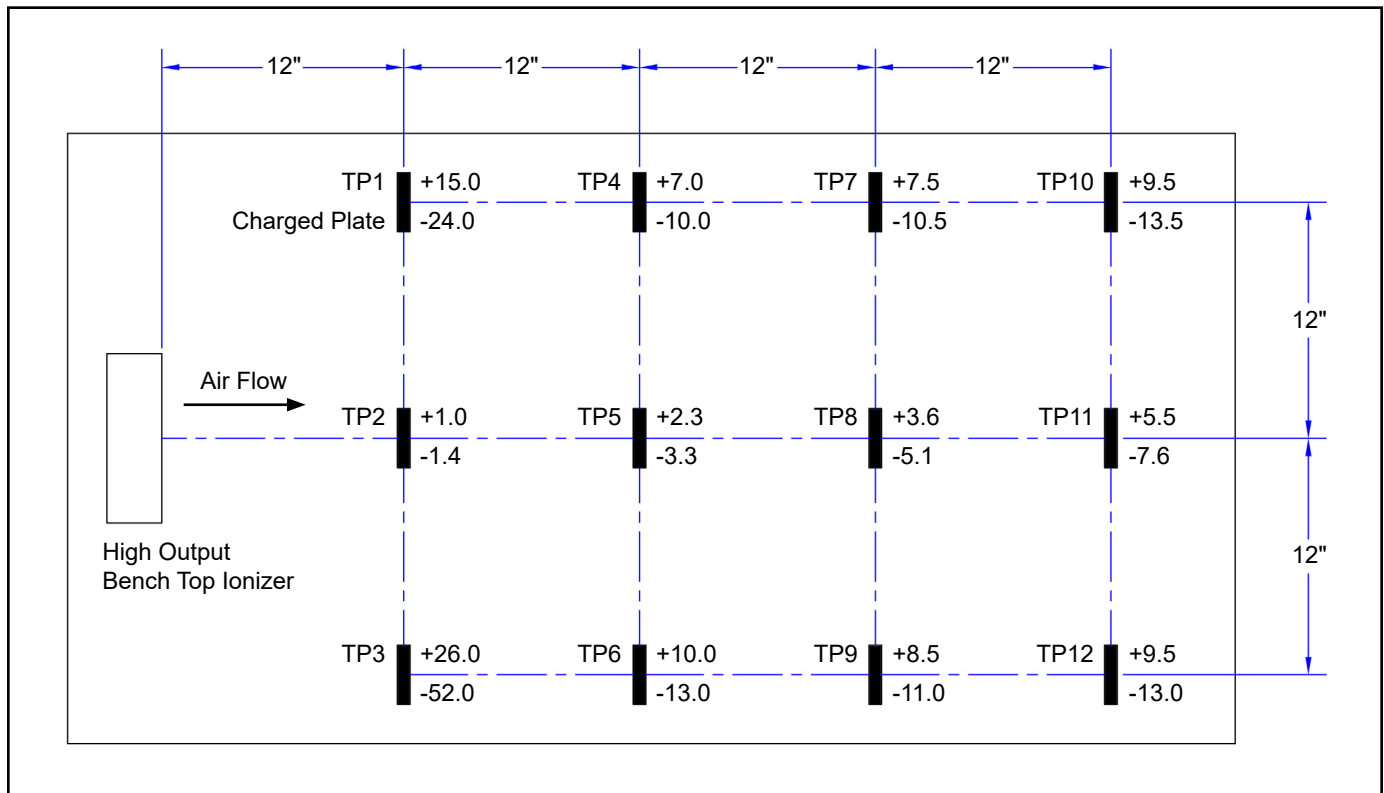

Figure 5. Neutralization (Discharge) Times at 120VAC / 220VAC, 60Hz input
5. Test the neutralization (discharge) time by applying a $\pm 1,000$ volt charge on the charged plate analyzer. The neutralization (discharge) time should be less than 2 seconds. See figures 5 and 6 for typical discharge times. The required limit per ANSI/ESD S20.20 is "user defined".
The comparative efficiency of bench top ionizers is determined by a standard test published by the ESD Association: ANSI/ESD STM 3.1. Typical positive and negative discharge times (1000V - 100V) measured using this standard are shown in Figures 5 and 6. The performance of the ionizer was measured with the unit positioned as shown, with the fan speed on high and without a filter.
Balance (offset voltage) at 12" in front of Ionizer (see Figures 5 and 6)